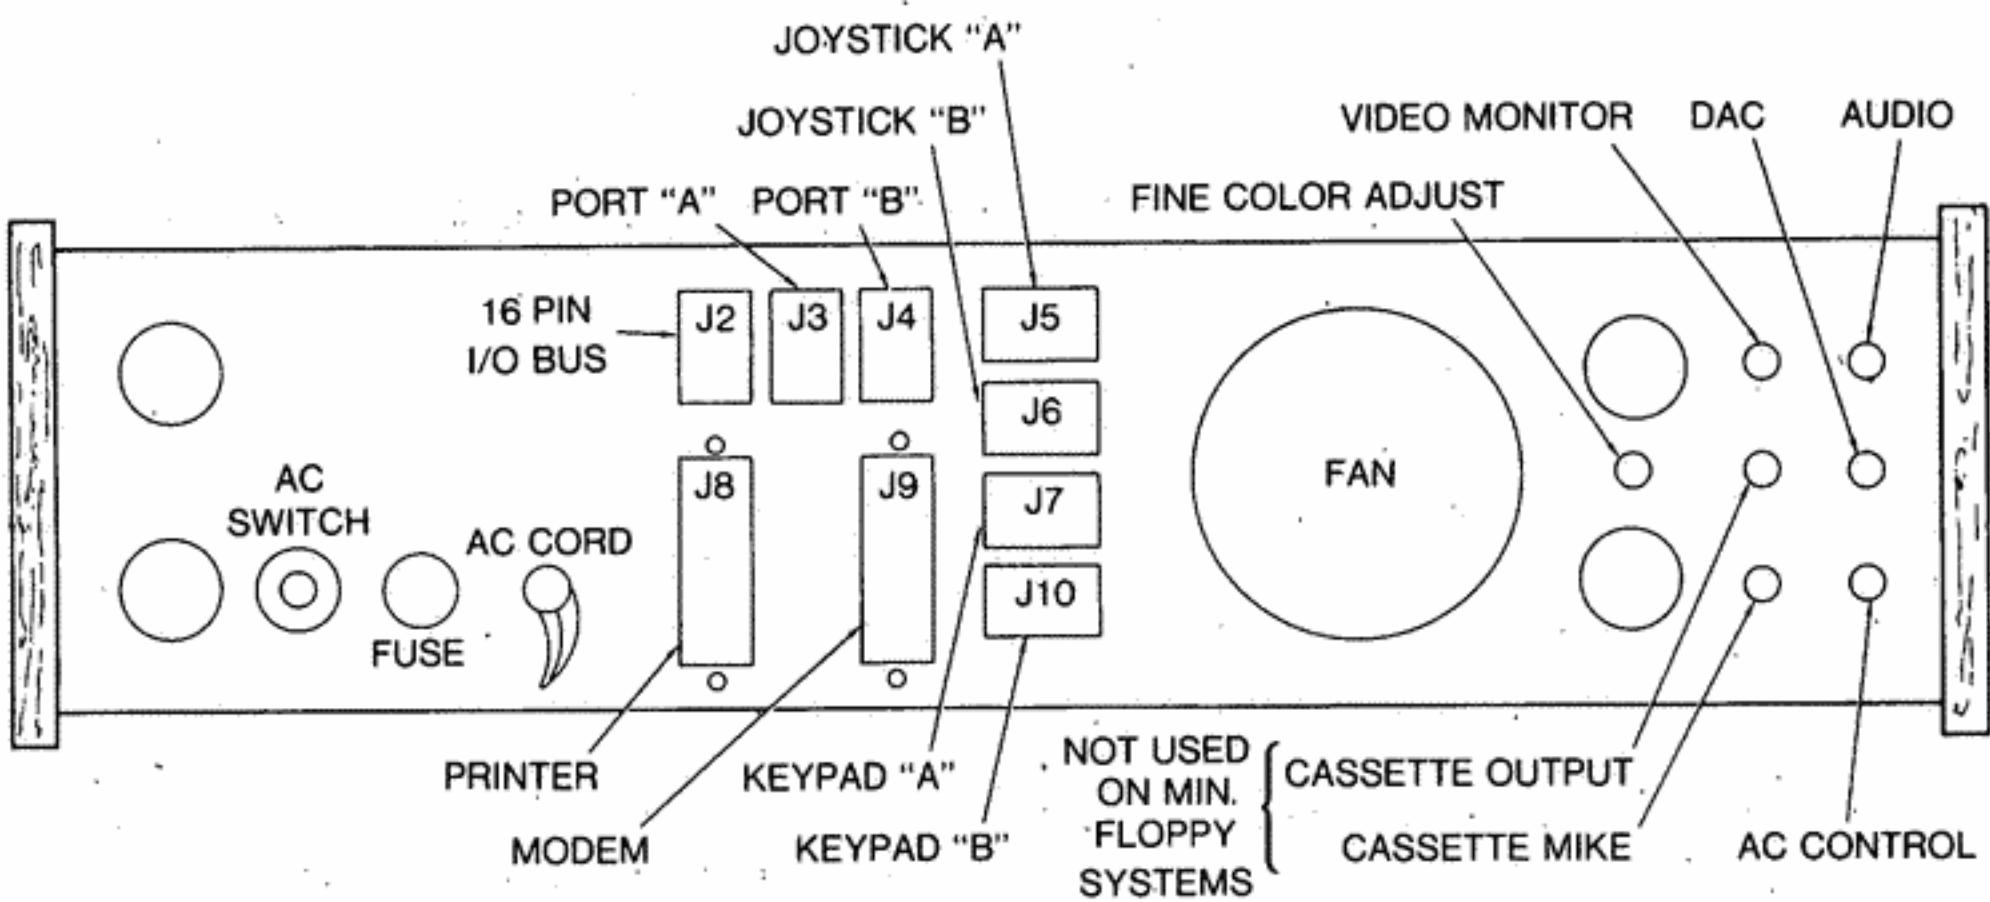

Fig. 1 C4P Back Panel and Video Interconnection
2. Connect the system together with the cables provided according to Figure 1. Press the cable connectors firmly for good contact. If a monitor provided by OSI is not used, then read the section on "Video Display Connection."
1. Refer to Figure 1: Attach the supplied video cable to the computer as shown.
1. Refer to Figure 1. Review the manufacturer's instructions included with the RF modulator.
2. Floppy disk drive units will be connected at the factory. The removal of packing material, done earlier, is the only preparation step required. Externally the interconnection of computers and accessories should agree with Fig. 1.
- a. Check that the system is connected according to Figure 1 and the related instructions. Make sure that there is clearance for ventilating air in the back of the C4P system.